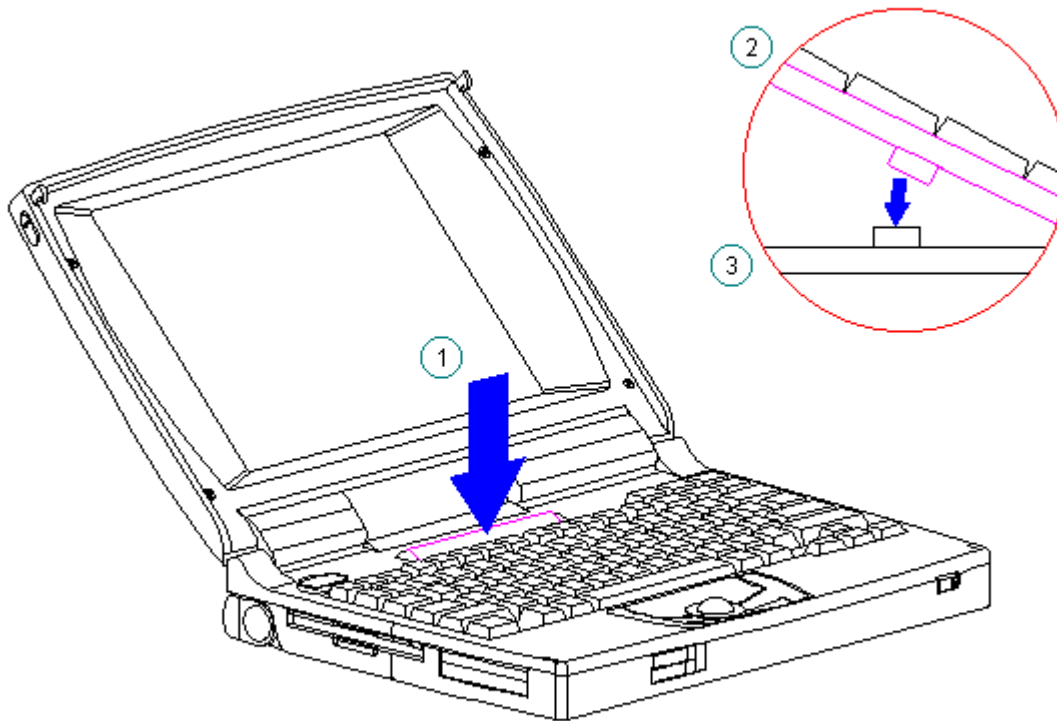

Figure 3-29. Connecting the Keyboard Assembly Connector (All Models)
6. Press firmly in the center of the keyboard assembly below the status panel [1] to connect the keyboard connector [2] to the system board [3] (Figure 3-29).